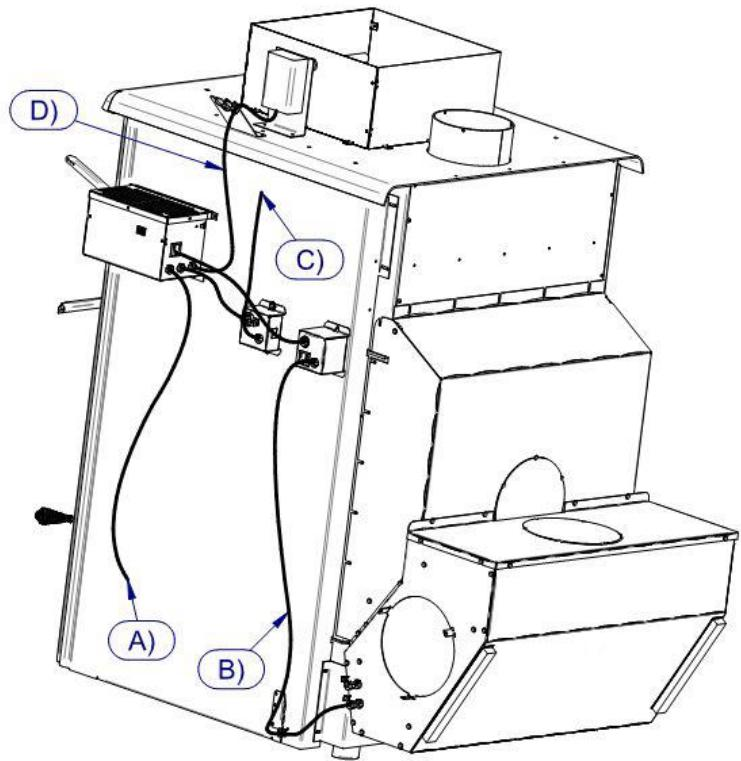

FIGURE 13
2. Open up the access hatch (F) by removing the 3 screws (E)
3. Remove the 2 blower panels (D)
4. Put your hand inside the access hatch (F) and put 8 screws in place (A). Fasten the blowers (C) with the nuts (B) (see figure 13)